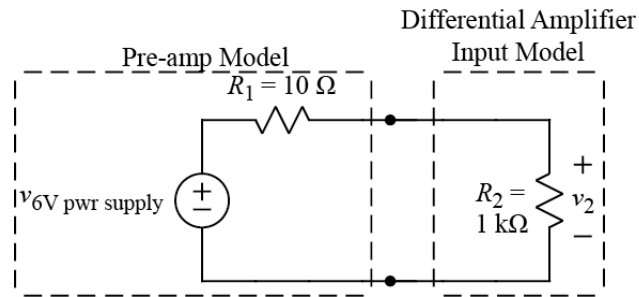

Figure 6. Circuit model of a pre-amp driving differential amplifier: schematic.
4) Repeat the above process using the circuit shown in Figs. 6 and 7, and fill out Table III in your laboratory notebook. In this circuit, the 6V power supply and the  $10\ \Omega$  resistor simulate the output of a pre-amp that is between an electrode and a differential amplifier. As before,  $R_2$  simulates the input of the differential amplifier.